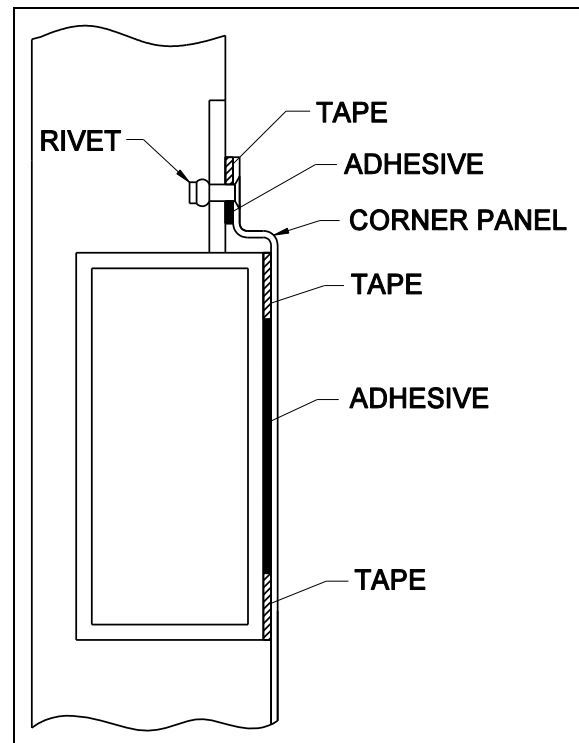
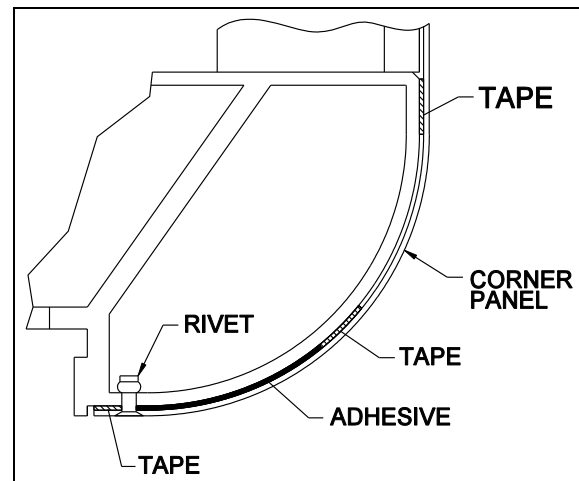

FIGURE 44 : CORNER PANEL INSTALLATION – UPPER PART
FIGURE 45 : CORNER PANEL INSTALLATION – LOWER PART
4. Remove panel upper rivets (figure 44) and lower rivets (figure 45) with a 1/8" drill bit, a hammer and a punch.
- Refer to figure 44 and figure 45 for adhesive, tape and rivet position.